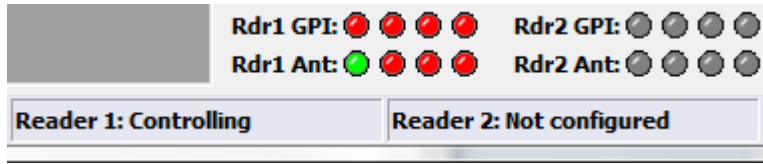

Figure 6.5 MultiReader Status Display
13. Select **Apply**. MultiReader displays a progress bar as it connects to the Reader. When the connection completes, the status displays at the bottom of the application, as shown in Figure 6.5.